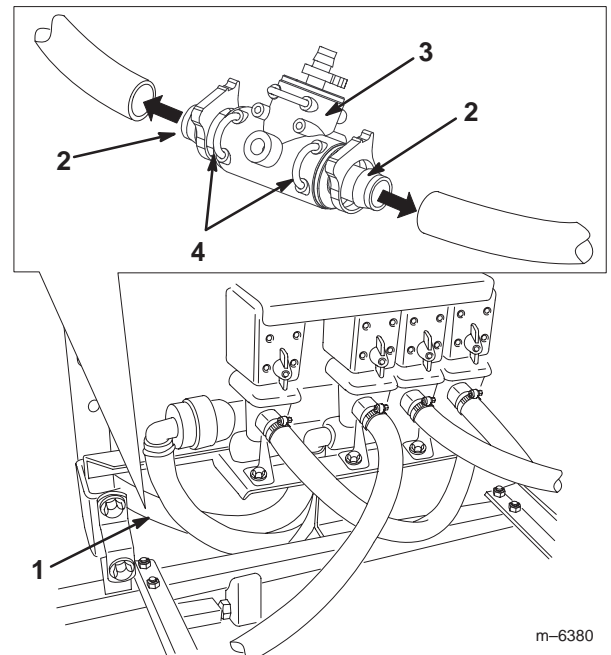

Figure 6
5. Cut the by-pass hose half way between the boom valves and the tank (Fig. 6).
6. Using liquid soap on the barbs, insert an S53 tee fitting into each hose end and secure them using 2 large, plastic hose clamps (Fig. 6).
7. Assemble the S53 tee to the fittings, using 2 small retainers (Fig. 6).
7. Connect the other end of the long hose assembly to the open fitting on the S53 tee that you installed into the by-pass hose (Fig. 6) and secure it with a small retainer.